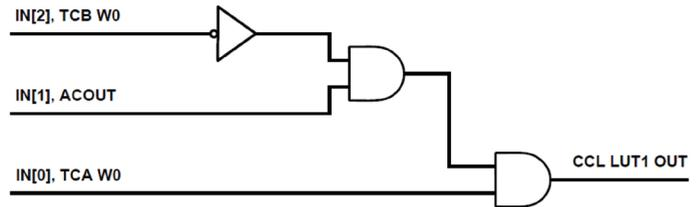
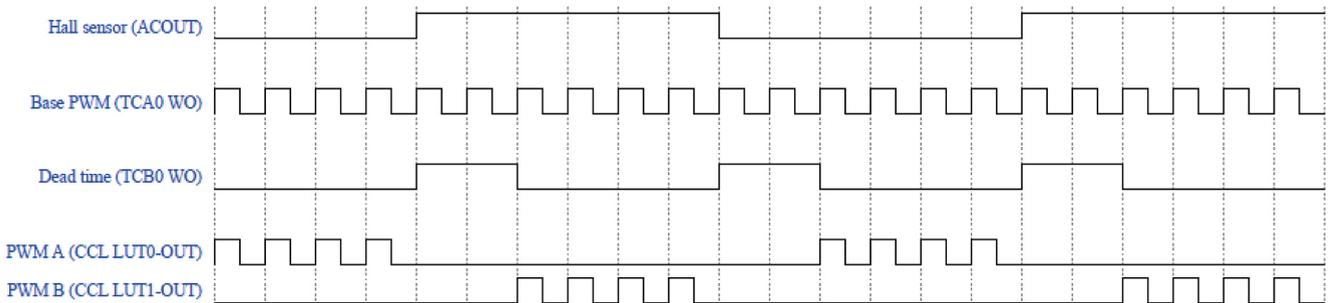

Figure 2: CCL LUT0 dead-time generation
Figure 4: Dead-time generation timing diagram
To generate dead time between commutations, two timers are needed: the CCL and the analogue comparator (AC). Figures 2 and 3 show the logic of the CCL’s truth table. The timer TCA generates the base PWM signal for the motor control. The AC is externally connected to the Hall sensor of the motor, and internally connected via the event system to timer TCB, which generates the dead time signal, if it gets a signal from the AC. The CCL combines the TCA (PWM), TCB (dead time) and the AC signal. The input signals can be selected directly in the CCL configuration, and don’t need to use the event system. There are hardwired connections between these modules. The CCL then generates two PWMs (Figure 4), which drive the switches for the motor. Thus the motor runs without any CPU involvement.